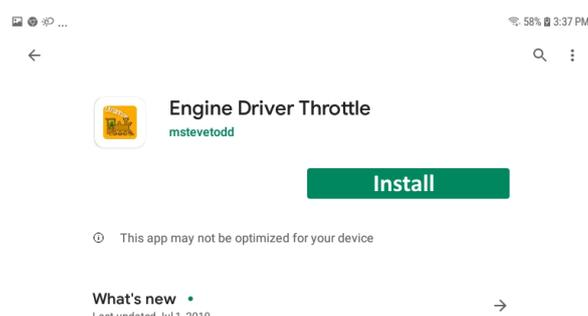

Figure 16 The Engine Driver Throttle detail page in the play store
- d. Tap the Install button (Figure 16). The app downloads and install on your device. Do not open the app until after the next steps.